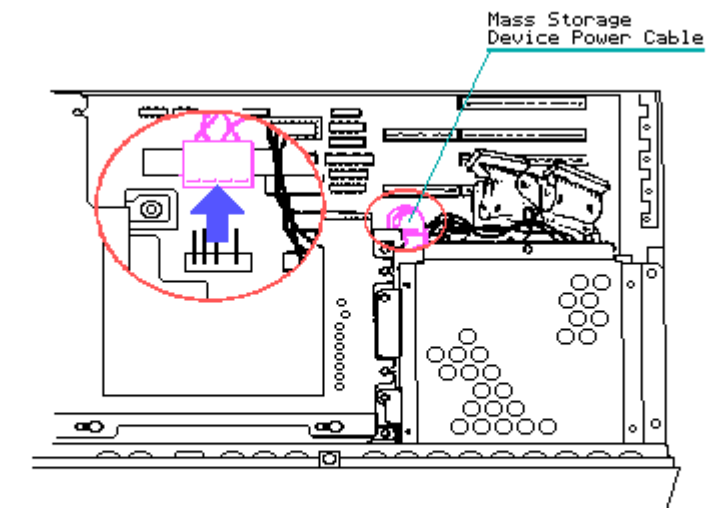

Figure 7-57. Disconnecting the Mass Storage Device Power Cables from the System Board
6. Disconnect the diskette drive and fixed disk drive power cable from the system board (Figure 7-57).